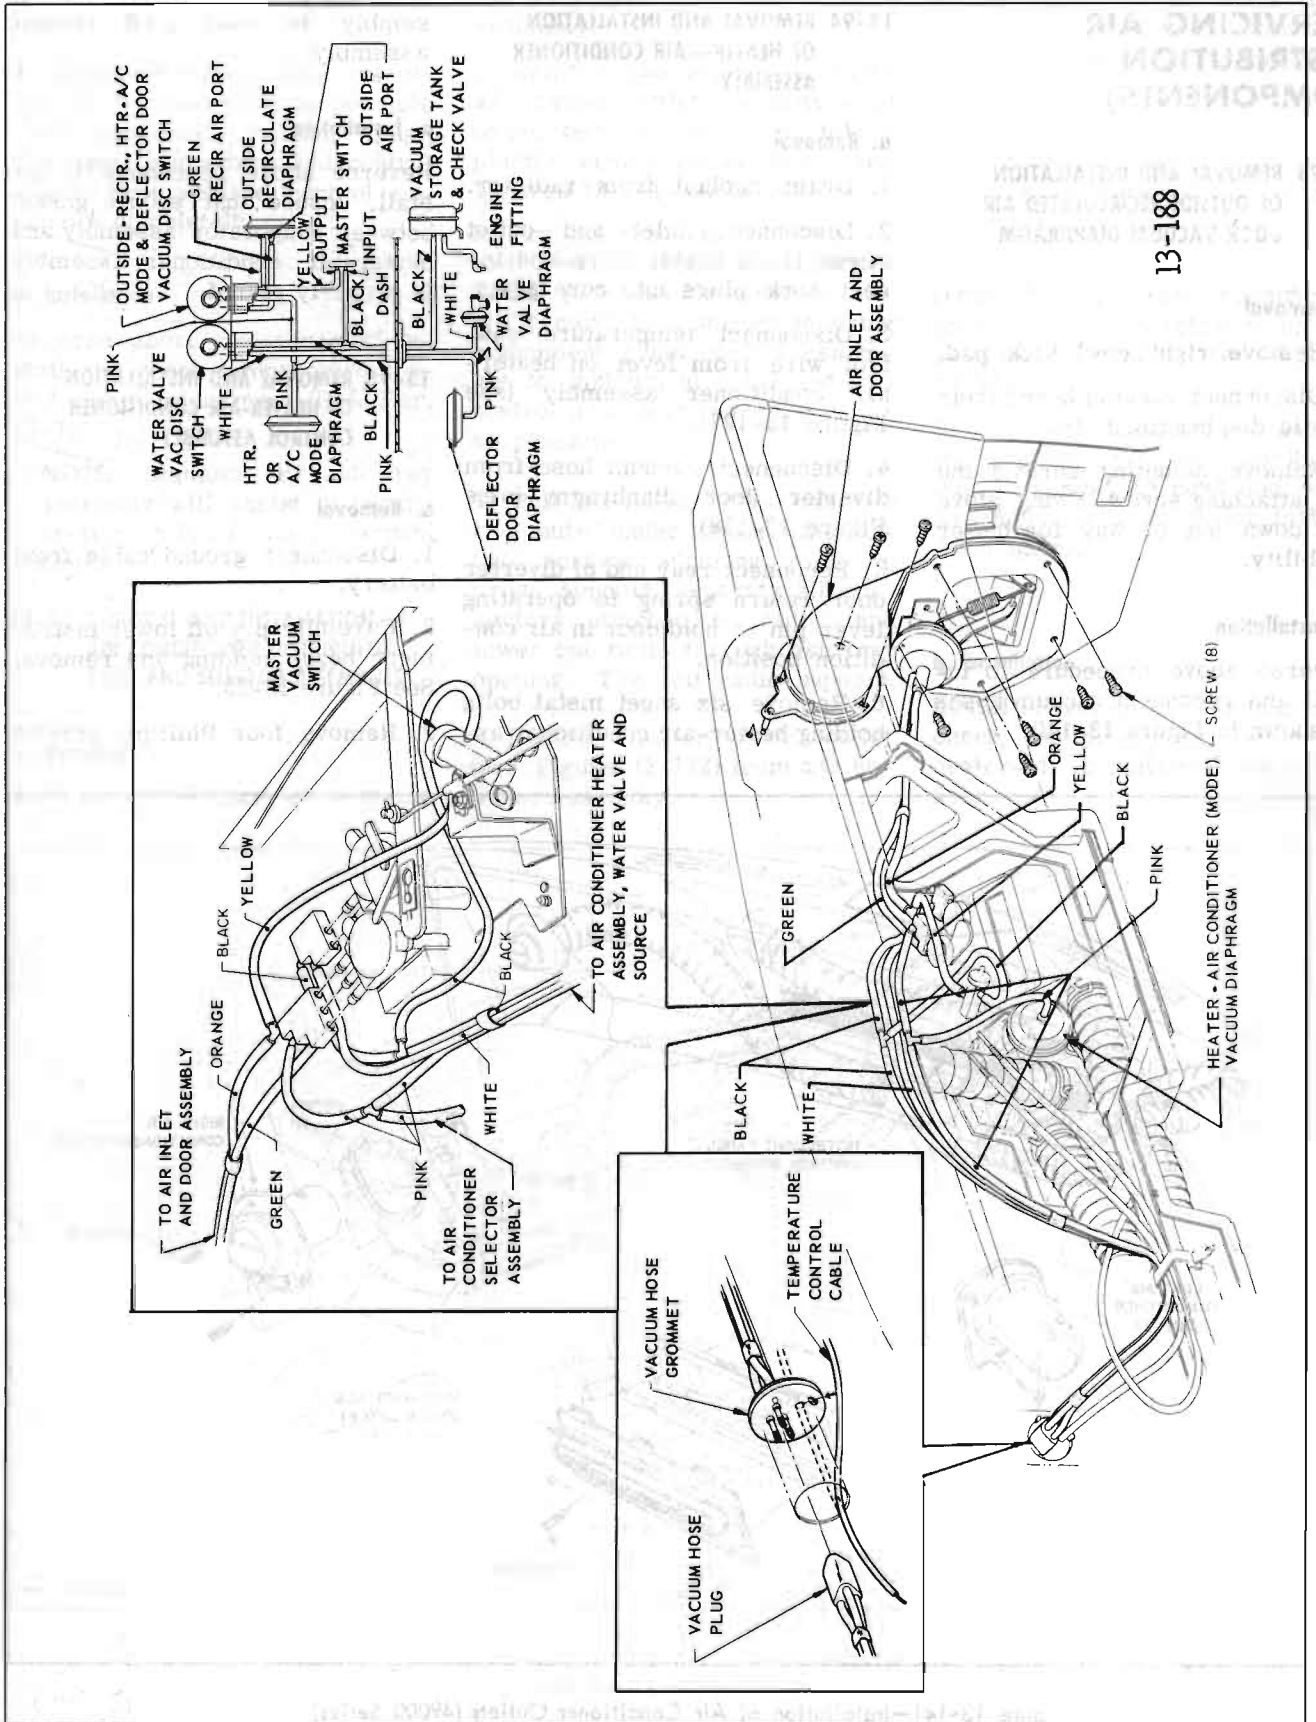

Figure 13-140—Vacuum Hose Layout (49000 Series)
Reverse above procedure to install and reconnect vacuum hoses as shown in Figure 13-140.
8. Disconnect pink vacuum hose from heater-air conditioner (mode) vacuum diaphragm on a/c selector assembly (see Figure 13-140).